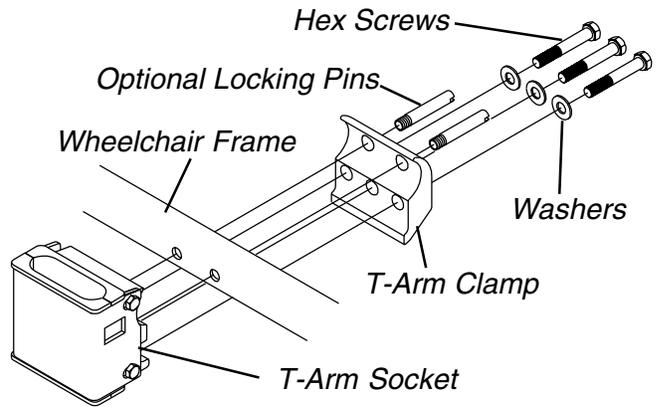
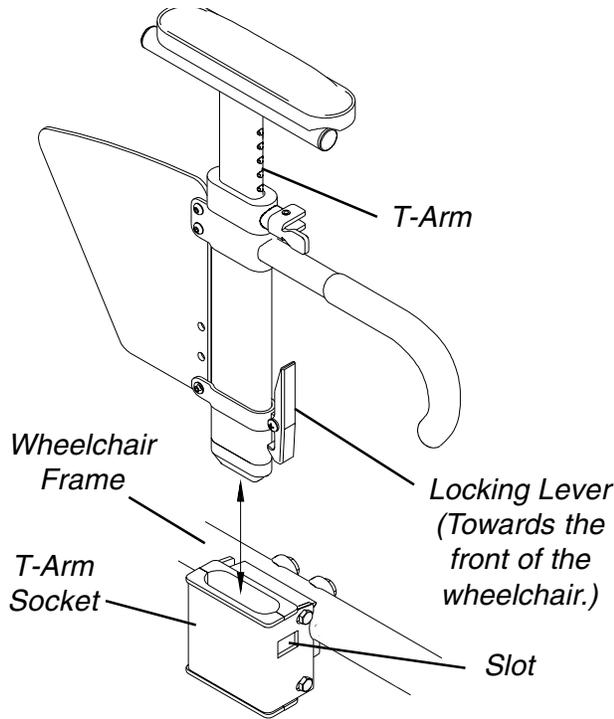

FIGURE 1 - INSTALLING THE T-ARM SOCKETS
FIGURE 2 - INSTALLING/REMOVING THE T-ARMS
**INSTALLING THE T-ARM SOCKETS (FIGURE 1)**
- Position the T-arm socket and T-arm clamp on the wheelchair frame as shown in FIGURE 1.
- The two (2) outside hex screws and washers.
**INSTALLING/REMOVING THE T-ARMS (FIGURE 2)**